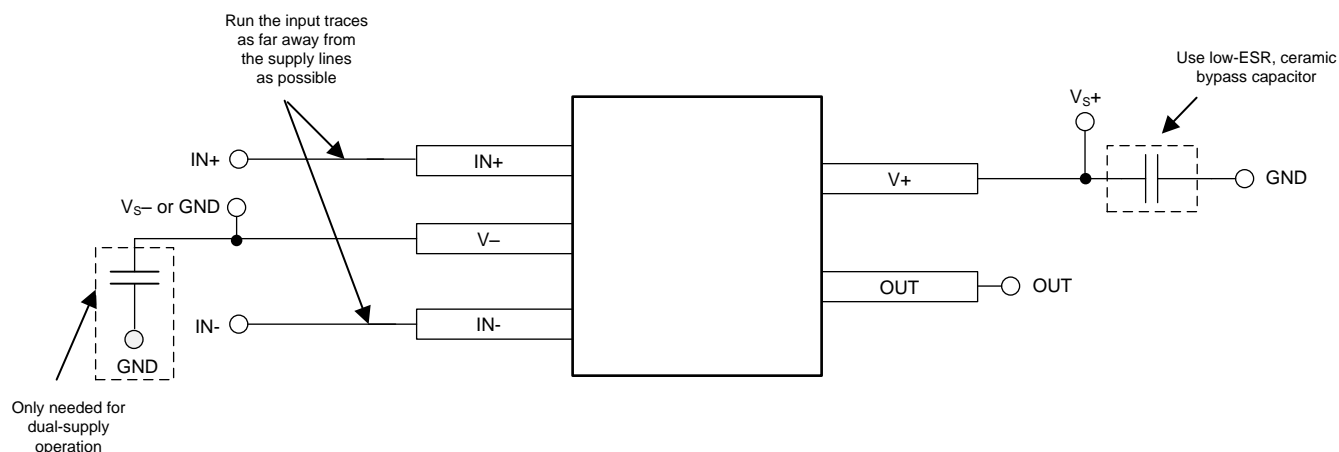

Figure 12. Comparator Board Layout
- To minimize supply noise, place a decoupling capacitor (0.1- μ F ceramic, surface-mount capacitor) as close as possible to V_S as shown in Figure 12.